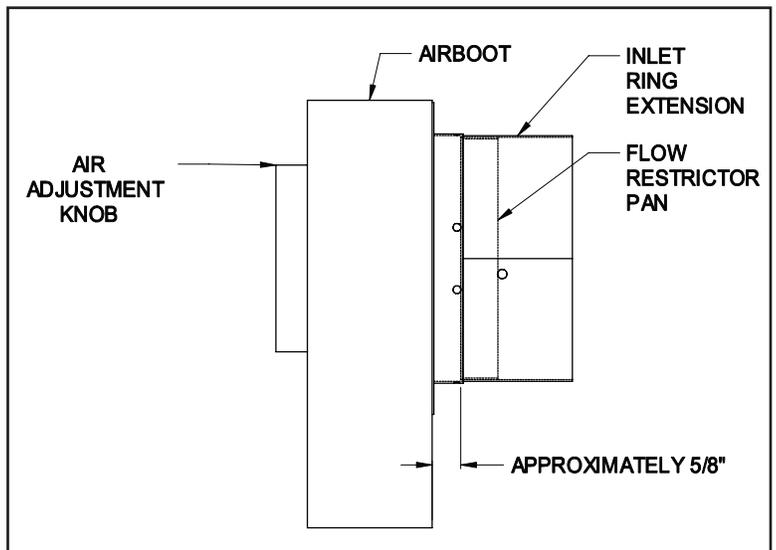

Figure 5
- b. Push the pan in all the way, approximately  $\frac{5}{8}$ " from the air adjustment blades. (See Figure 5)